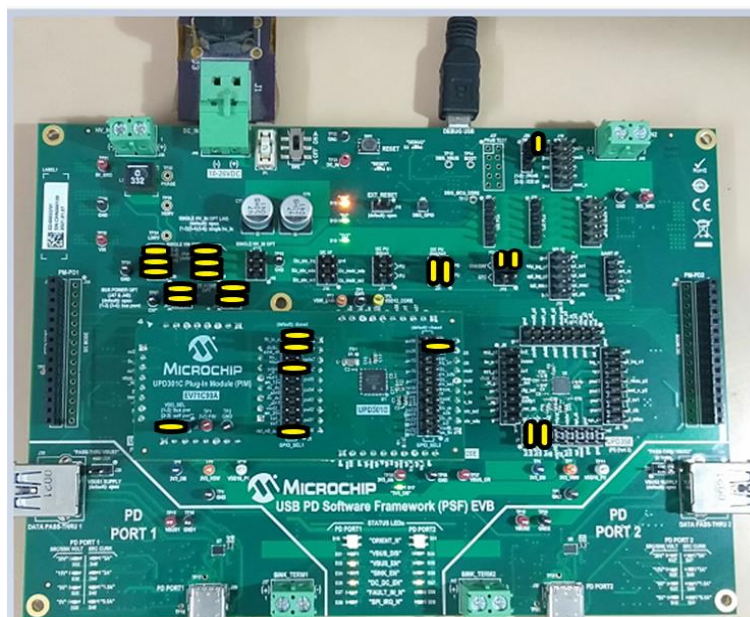

Figure 5.2 EVB-PSF with jumper connections highlighted
2. Ensure the following jumpers are connected in EVB-PSF before proceeding to next step. An image of EVB-PSF with all the required jumper connections highlighted is shown in Figure 5.2.